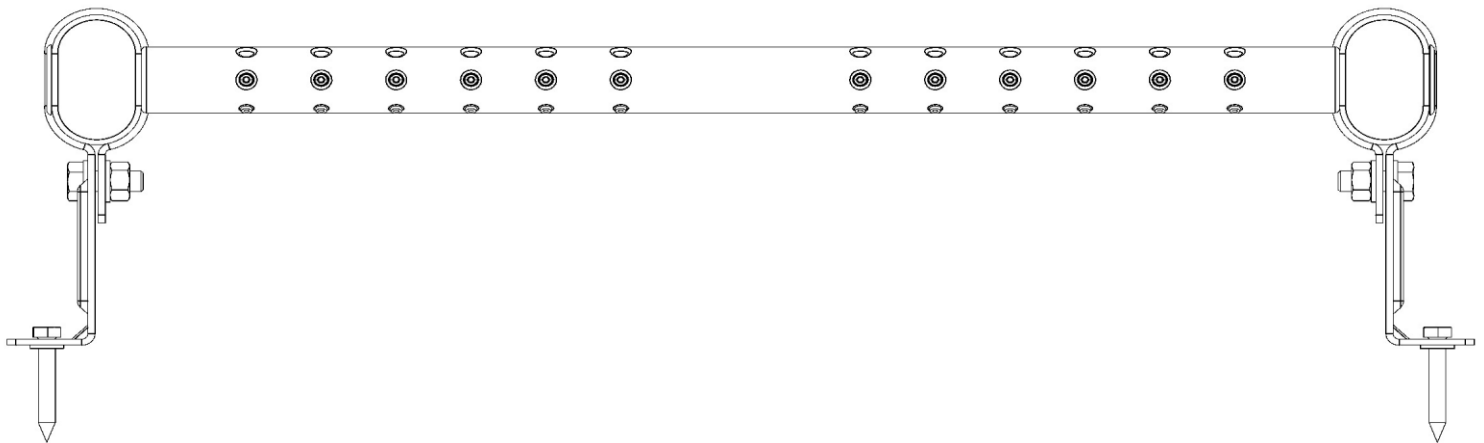

Figure 2.
- Install the Q-bracket plates on the sides of the roof ladder and fasten them together using an M8x20 mm screw, M8 nut, and M8 washer (Figure 2).
- Join the Q-bracket plates with the roof material using an M8x60 screw and an M8 rubber washer (Figure 2).